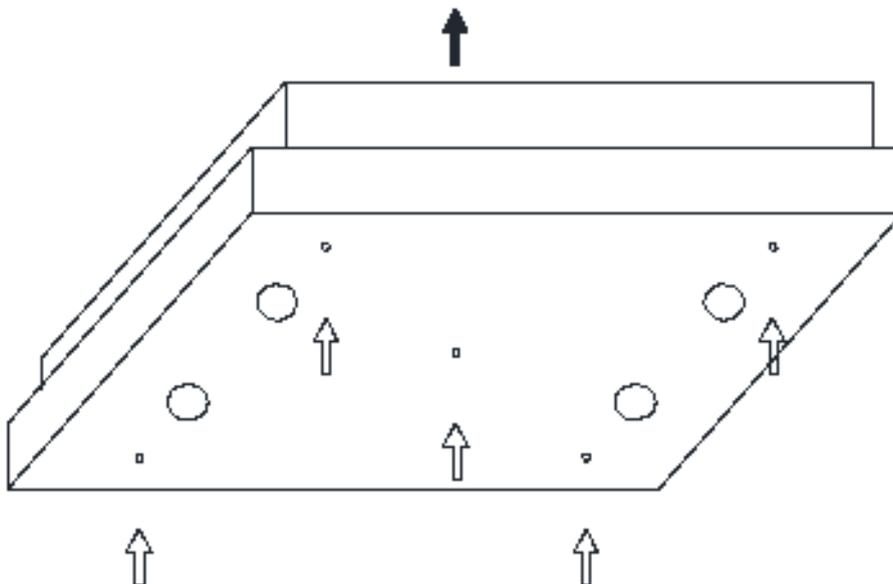

Figure 2 - attaching the panel to the frame
- ii. Drill holes in the ceiling at the marked position, making sure that they are the right size for the screw plugs provided in the installation kit. Using the screws and screw plugs provided, secure the panel to the ceiling (see figure 2).
12. **Panels with installation frames only:** using the screws provided, secure the lighting panel to the frame. Ensure that the screw holes on the panel are aligned with those on the frame (figure 2).